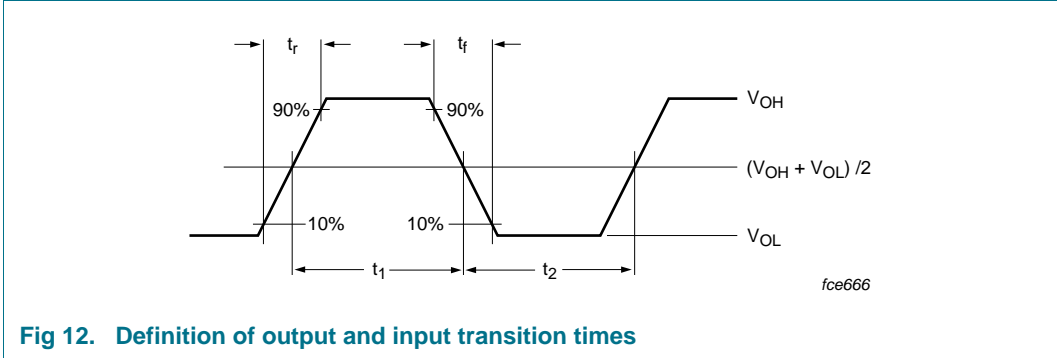

Fig 12. Definition of output and input transition times
- [2] The transition time and the duty factor definitions are shown in Figure 12 on page 25; $d = t1/(t1 + t2)$